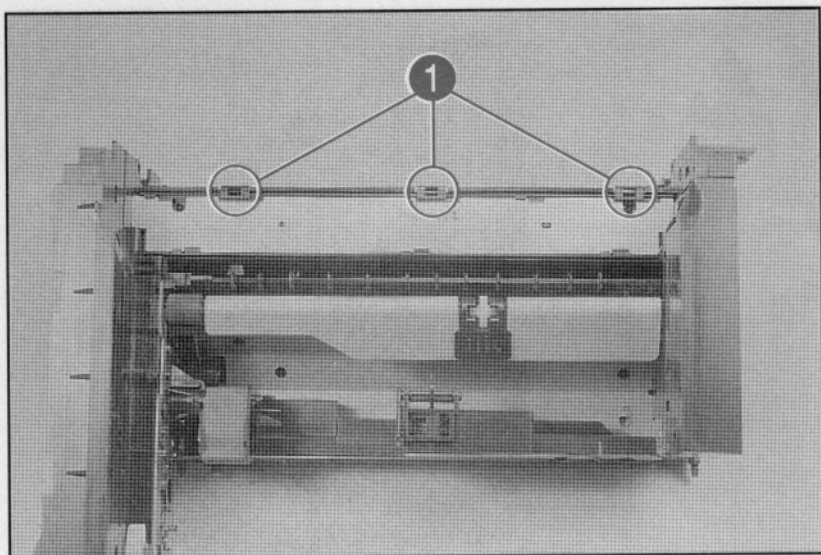

Figure 6-50 **Sensor PCA Removal**
- 4 Release the (3) clips that hold the Sensor PCA cover. Remove the cover (see Figure 6-50, callout 1).